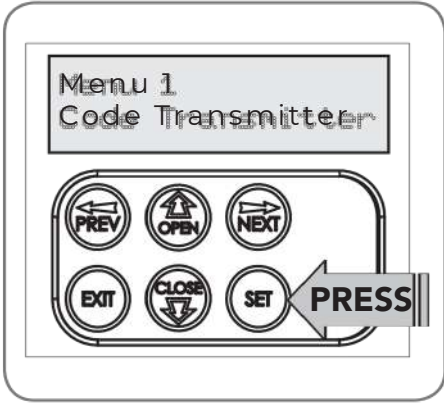

Fig 8.2
- b. Press SET to enter the code set procedure (Fig. 8.2).
- a. Select left or right installation side by pressing open button for the correct side (Fig. 8.2).